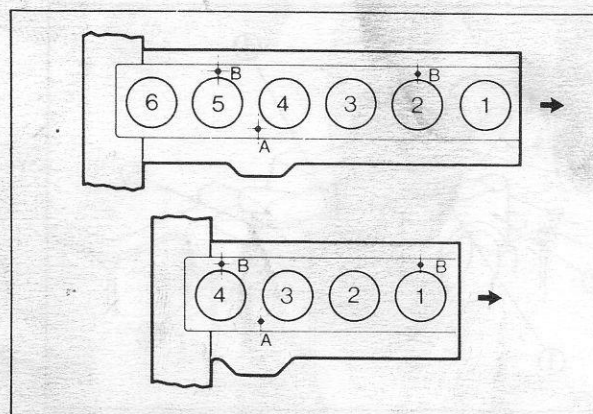

Fig. 48 - Cylinder Head/Gasket Locating Dowels
67. Check to ensure the locating dowels are fitted into the counterbores of the two head bolt threads and the water circulating passage at the position shown in Fig. 48.